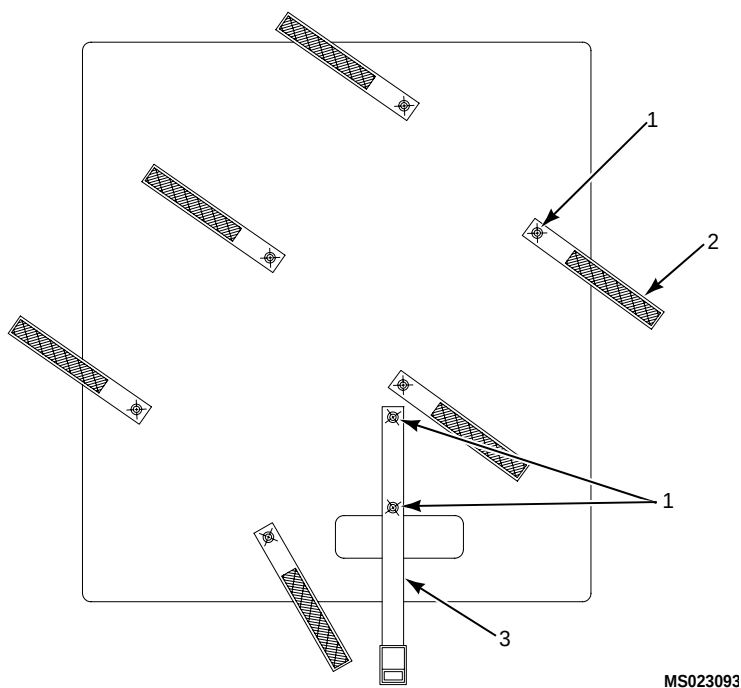

Figure 3. Strapping Replacement
Strapping Replacement - Remove/install rivet (1) to replace Velcro strap (2) or web strap (3). (Figure 3)